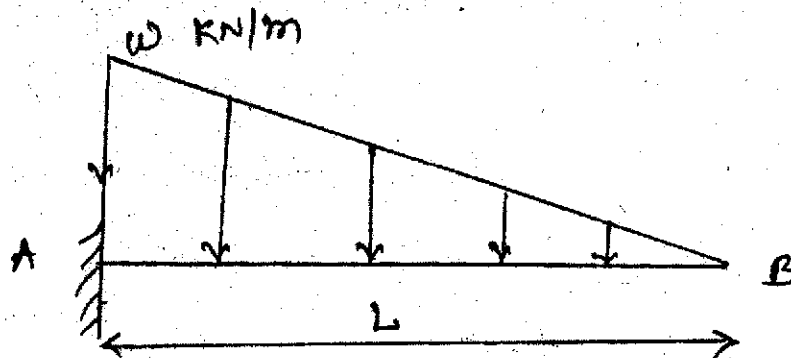

Fig. 6
4. (a) Derive expression for slope and deflection at free end of cantilever beam of length 'L', carrying UVI as shown in Fig. 6. [6]